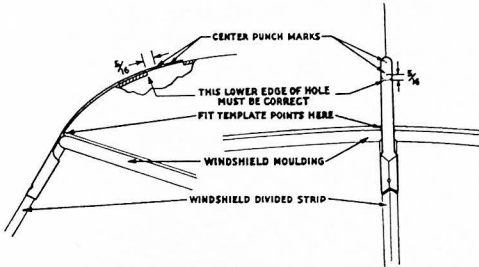
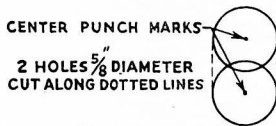

Fig. 1
Fig. 2
1. Locate the roof hole by laying the metal template along the upper end of the windshield divider strip as shown in Fig. 1. Prick punch two holes as shown. With the template in position, scratch a line between the two punch marks on each edge of the template. These lines should be $\frac{5}{8}$ " apart, and mark the width of the slot to be made. The headlining is directly back of the roof. Be careful not to allow the drill or cutter to punch a hole through the headlining. The *accurate drilling of the lower edge of the bottom hole is important* for the correct fitting of the roof tube and the smooth operation of the antenna. Cut out the metal between the lines as shown in Fig. 2.